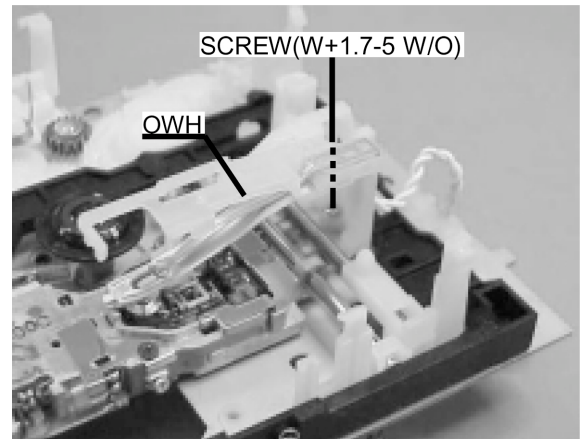

Fig.5-2
- 2) Remove the screw (VW+1.7-5 W/O) and remove the OWH while paying attention to the wire of the OWH. (Fig. 5-2)